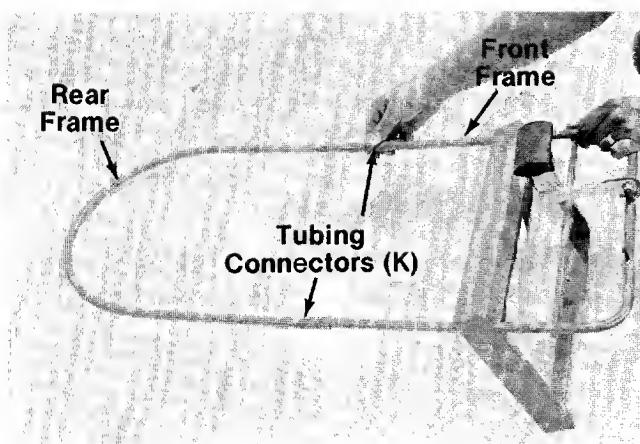

FIGURE 7.
1. Push the tubing connectors (K) onto the ends of the rear frame. Slip the ends of the front frame into the other ends of the tubing connectors. See figure 7.